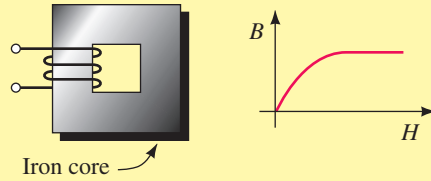

FIGURE 13-11 This coil does not have a fixed inductance because its flux is not proportional to its current.
2. However, if a coil is wound on a magnetic core, the core's permeability μ may change with flux density. Since flux density depends on current, L becomes a function of current. For example, the inductor of Figure 13-11